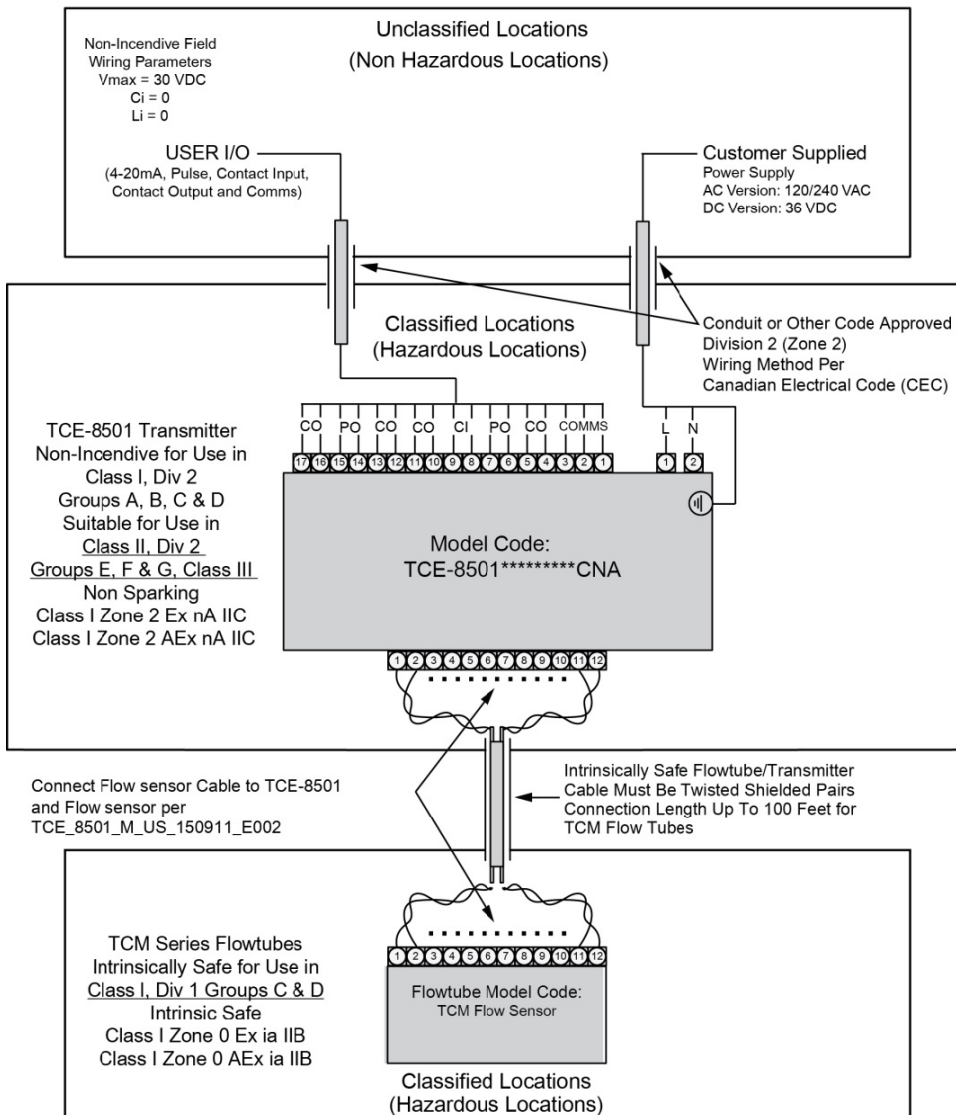

Fig. 4: CSA International, TCM Flow sensor in Class I, Division 1 (Intrinsic Safety) and Transmitter in Class I, Division 2 (Non-Incendive)
1. Figure 4 must not be revised without prior CSA approval.